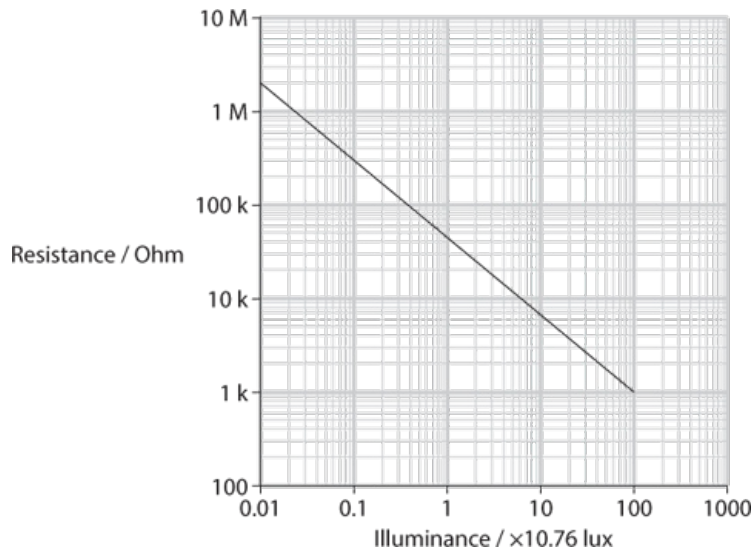

Figure 8.6: The relationship between illuminance and the LDR resistance.
- c The relationship between illuminance and the LDR resistance is given in the manufacturer’s data sheet as the log-log graph shown in Figure 8.6.